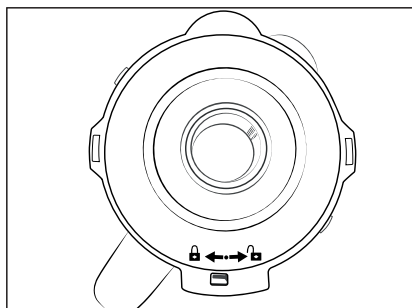

Fig. 1
- 2) Remove the lid **2** by turning it anticlockwise towards position  (see Fig. 1) until you can pull it upwards.
- 1) Remove the blender **3** from the motor block **6**. For better stability, remove the lid **2** by turning it anticlockwise towards the position  (see Fig. 1) until you can pull it off upwards.